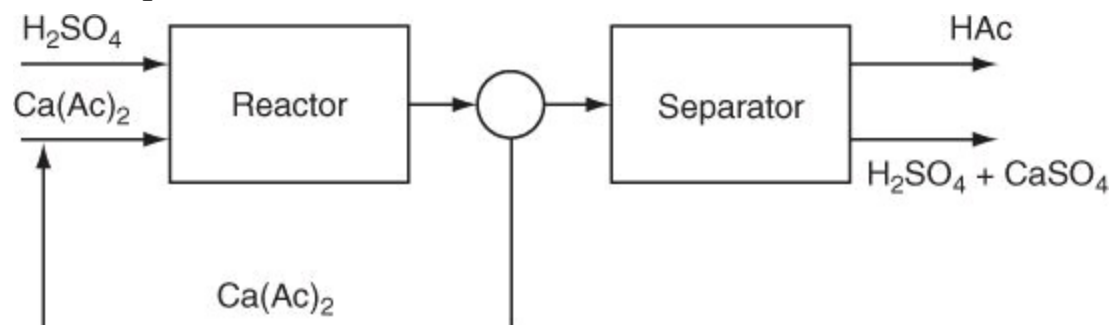

Figure P6.3.10
****6.3.10.** Acetic acid (HAc) is to be generated by the addition of 10% excess sulfuric acid to calcium acetate (Ca(Ac)₂). The reaction $\text{Ca}(\text{Ac})_2 + \text{H}_2\text{SO}_4 \rightarrow \text{CaSO}_4 + 2\text{HAc}$ goes to 90% completion based on a single pass through the reactor. The unused Ca(Ac)₂ is separated from the products of the reaction and recycled. The HAc is separated from the remaining products. Find the amount of recycle per hour based on 1000 kg of Ca(Ac)₂ feed per hour, and also calculate the kilograms of HAc manufactured per hour. See Figure P6.3.10, which illustrates the process.